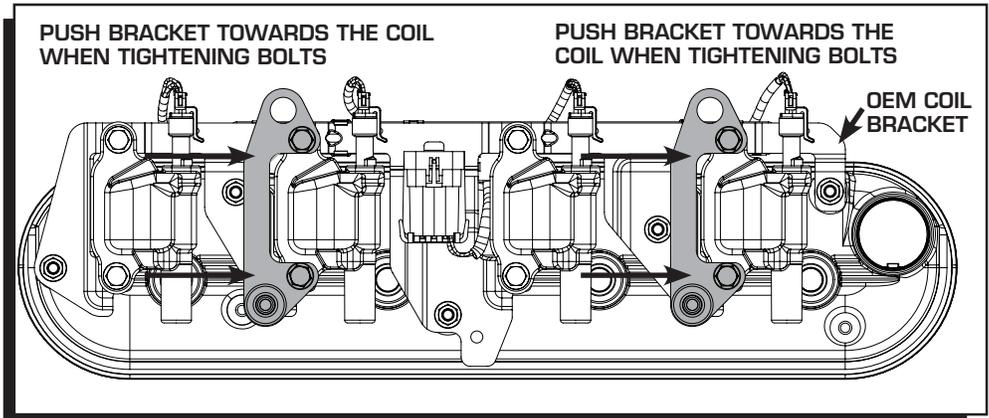

Figure 4 Installing the Coil Cover Brackets with OEM LS2/7 Coil Brackets.
2. Install the supplied cover bracket over the coil studs with the open hole pointing towards the top (inward) of the engine as shown in Figure 4 and 5 then reinstall the retaining nuts.